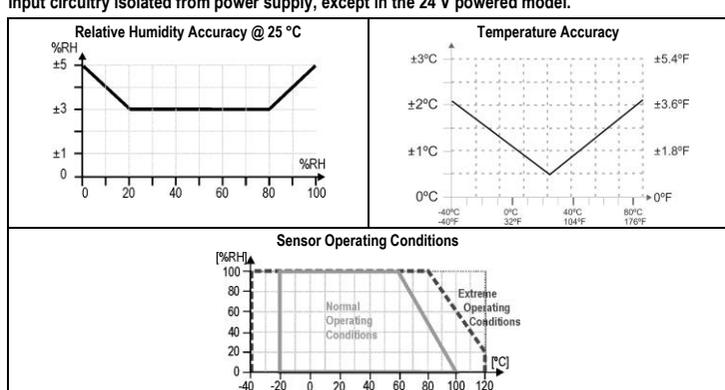

Fig. 1 – RH and temperatures accuracies
Range: 0 and 100 % (RH) (see Fig. 1);
Accuracy: See Fig. 1; Repeatability: $\pm 1\%$ RH;
Accuracy: Refer Fig. 1; Repeatability: $\pm 0.1\text{ }^\circ\text{C}$;
Range: -40 and $120\text{ }^\circ\text{C}$ (see Fig. 1);